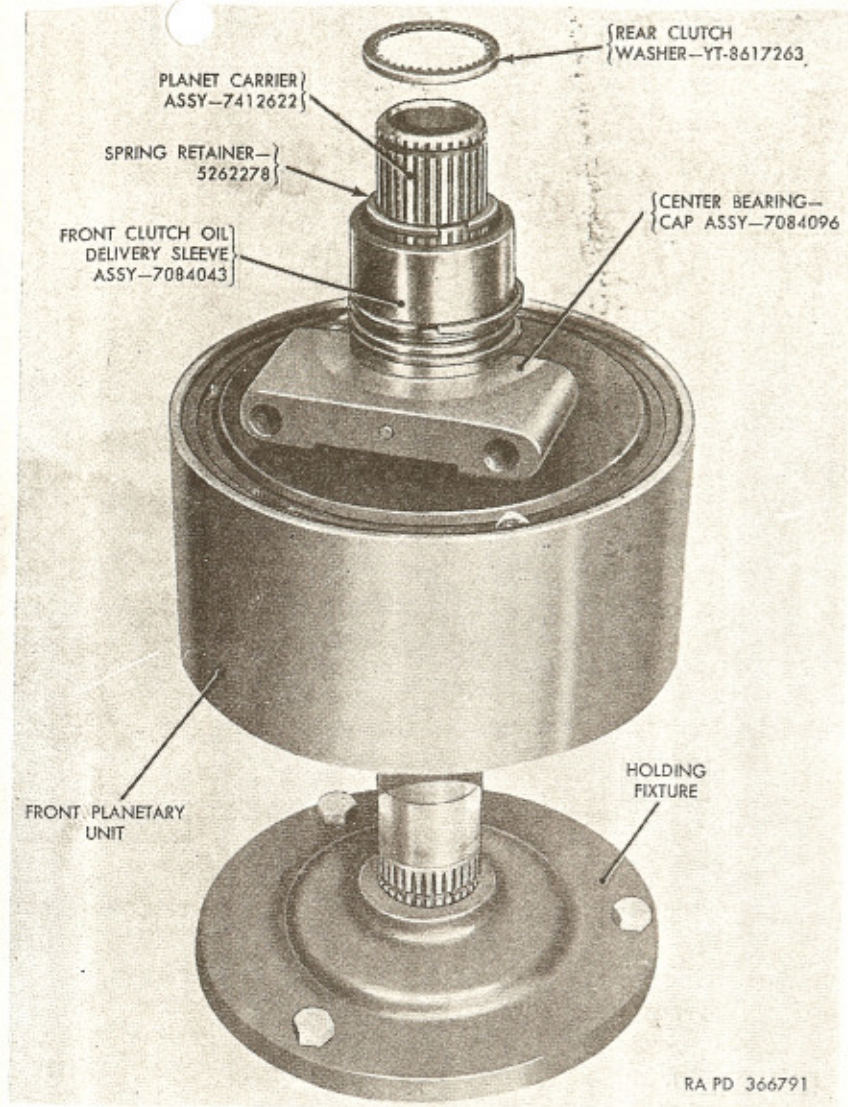

Figure 102. Planet carrier with rear planetary unit removed.
d. The rear clutch washer (fig. 102) may come off with rear unit or stay on planet carrier shaft. Remove rear clutch washer.
f. Remove center bearing cap assembly (fig. 102) from oil delivery sleeve. Tap cap with plastic hammer to loosen if necessary.
g. Slide oil delivery sleeve assembly (fig. 102) upward off planet carrier assembly.